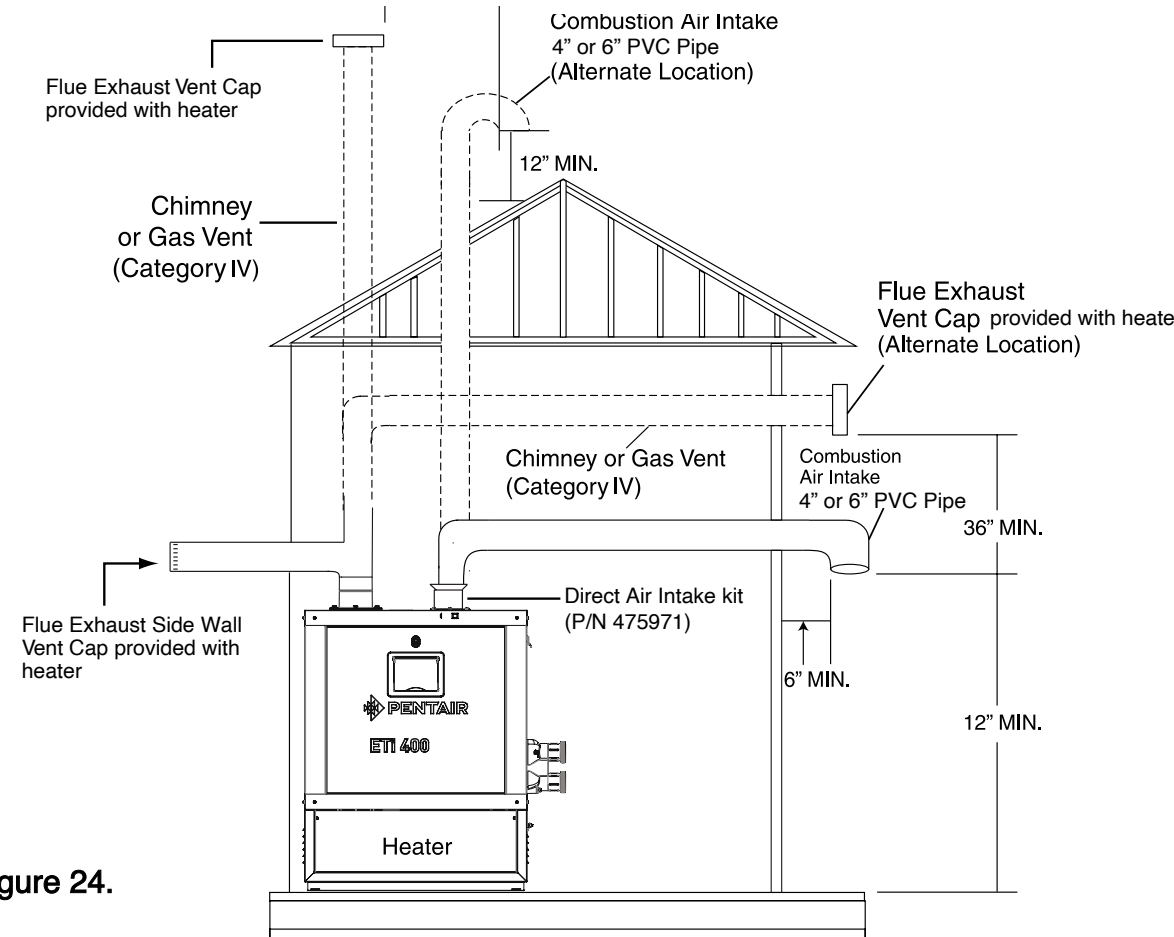
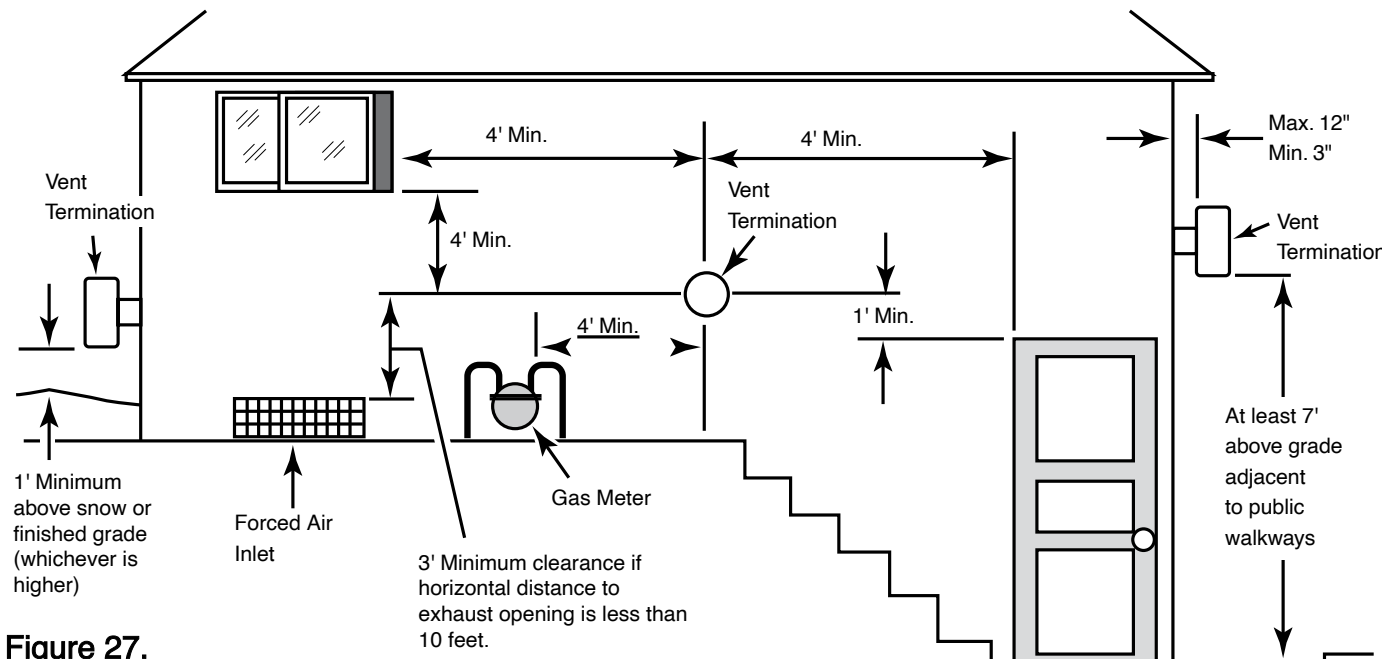
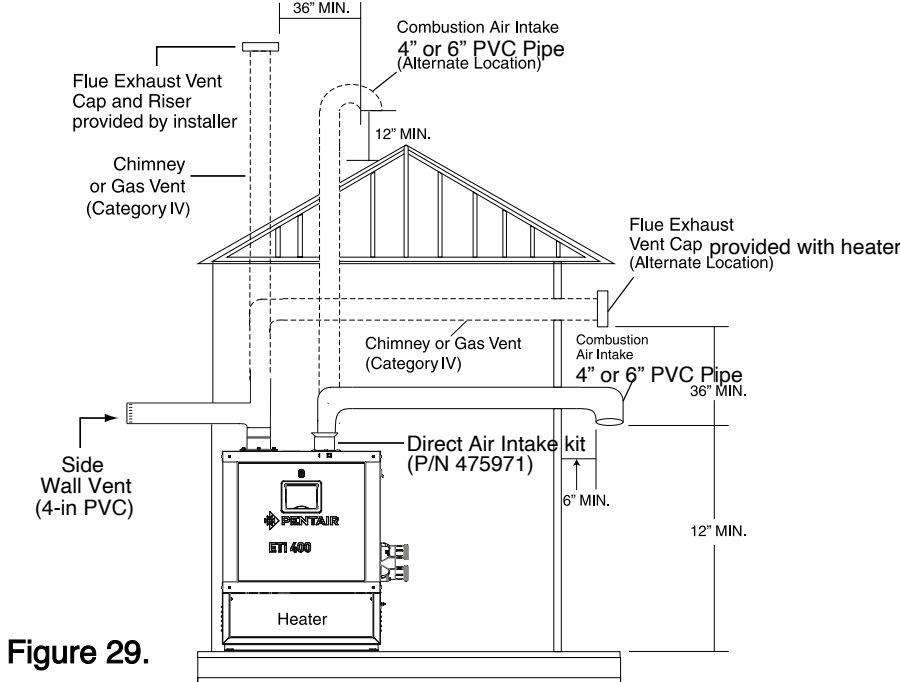

Figure 24.
Figure 27.
Figure 29.
An appliance that operates with a positive vent static pressure and with a vent gas temperature that allows excessive condensate production in the vent, see Figure 24 and Figure 27.
If you are considering connecting this heater to a pre-existing vent system, make sure that the vent system meets the appropriate venting requirements as given in Figure 27. If not, replace the vent system. **DO NOT** use a draft hood with this heater.
For indoor heater installations, the heater is tested for a direct air intake duct using 4 in or 6 in PVC pipe. If outside air is drawn through 4 in or 6 in PVC duct directly into the heater, vent pipe can be installed in accordance with the following requirements, see Table 4 below. The air intake opening **MUST** be installed at least 1 ft. above the roof line or normal snow levels for free air flow. The Category IV exhaust vent termination cap must have at least 3 ft. (1 m) minimum vertical clearance from air intake duct, see Figure 24.
3. Vent Termination: Vertical (See Figure 27 below and Figure 29 on page 36), for height of vent termination above the roof. Use an Approved vent terminal specified by local and national codes and your manufacturer's instructions. A roof termination must be vertical. In Canada, the Vent Cap location shall have a minimum clearance of 4 feet (1.2M) horizontally from electric meters, gas meters, regulators, and relief openings.
- at least 3" and at most 12" out from the wall (see Figure 29 on page 36), following the vent manufacturer's instructions
The flue direct vent cap **MUST** be mounted on the exterior of the building. The direct vent cap cannot be installed in a well or below grade. The direct vent cap must be installed at least 1' (0.3 m) above ground level and above normal snow levels, see Figure 27, page 34. The direct vent cap **MUST NOT** be installed with any combustion air inlet directly above a direct vent cap. This vertical spacing would allow the flue products from the direct vent cap to be pulled into the combustion air intake installed above.
It is recommended that the intake vent (see Figure 29 below) be insulated in colder climates.